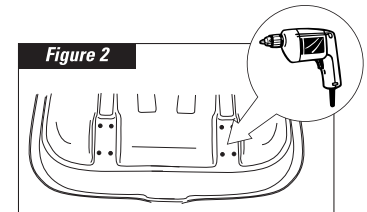

Figure 2
2. With a drill and 1/8" drill bit, drill 4 holes for each caster at the pre-marked hole locations (see **Figure 2**).